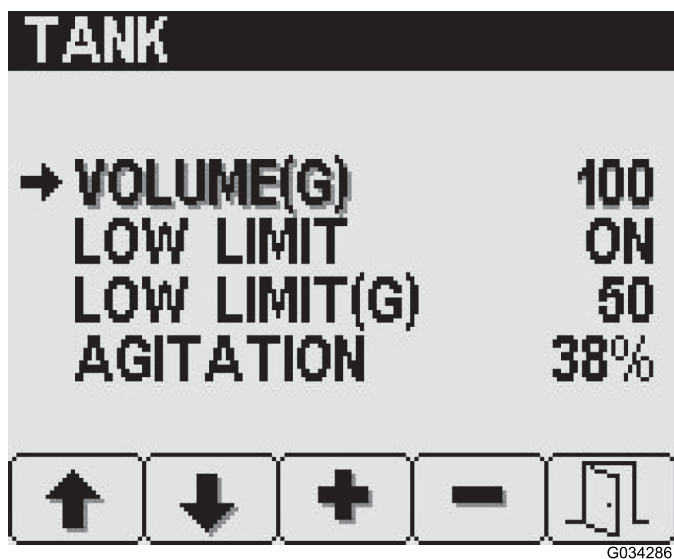

Figure 10
- 2. Press button 2 until you reach the item that you would like to change (Figure 10).
- 3. Use buttons 3 and 4 to set the desired value (Figure 10).